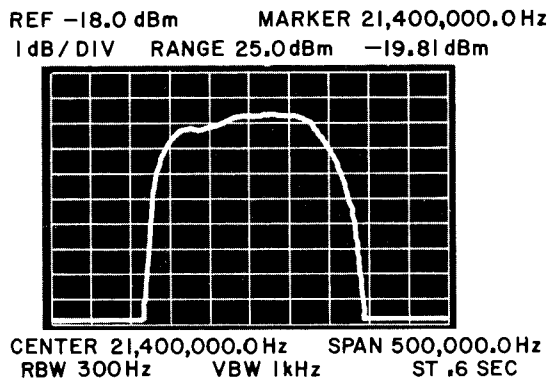
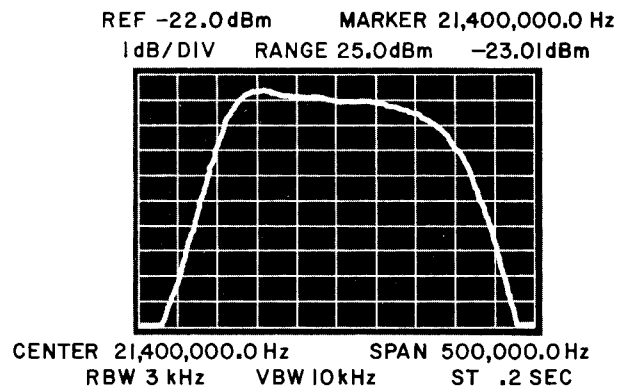

Figure 4-15. Narrow Band IF Filter Response
Figure 4-16. Wideband IF Filter Response
- 4) Select each receiver bandwidth and view the spectrum analyzer display. Refer to **Figure 4-15** (narrow band) and **Figure 4-16** (wide-band) for typical filter responses. Adjust (A1A12) L1 to produce the least amount of ripple for all the bandwidths.